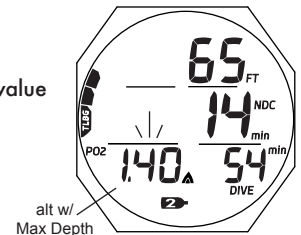

Fig. 87 - PO2 ALARM (after audible)
**PO2 Alarm Main**, information includes (Fig. 87) -